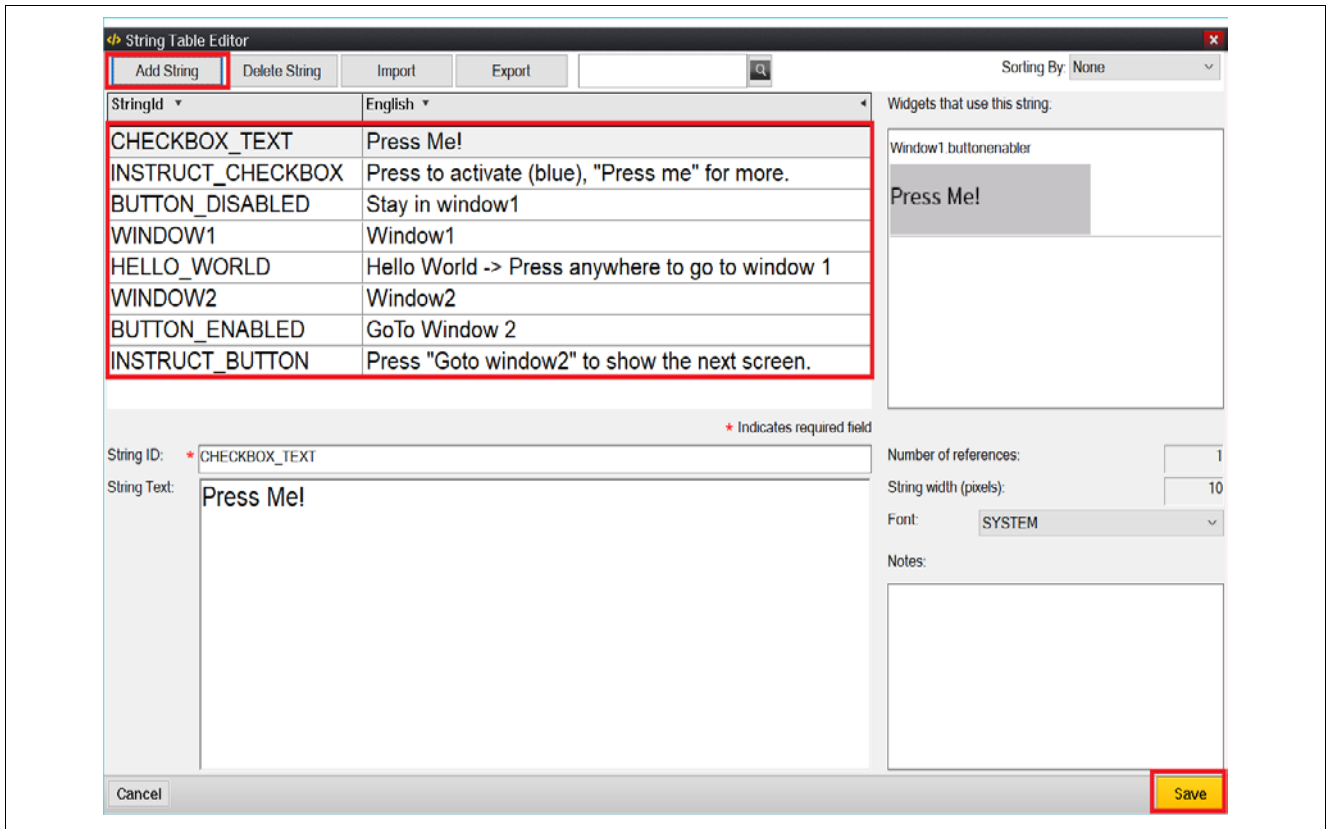

Figure 58. All Strings
- Continue to click **Adding String**, then edit **String ID** and **String Text** until the table appears like Figure 58. Then click the **Save** button